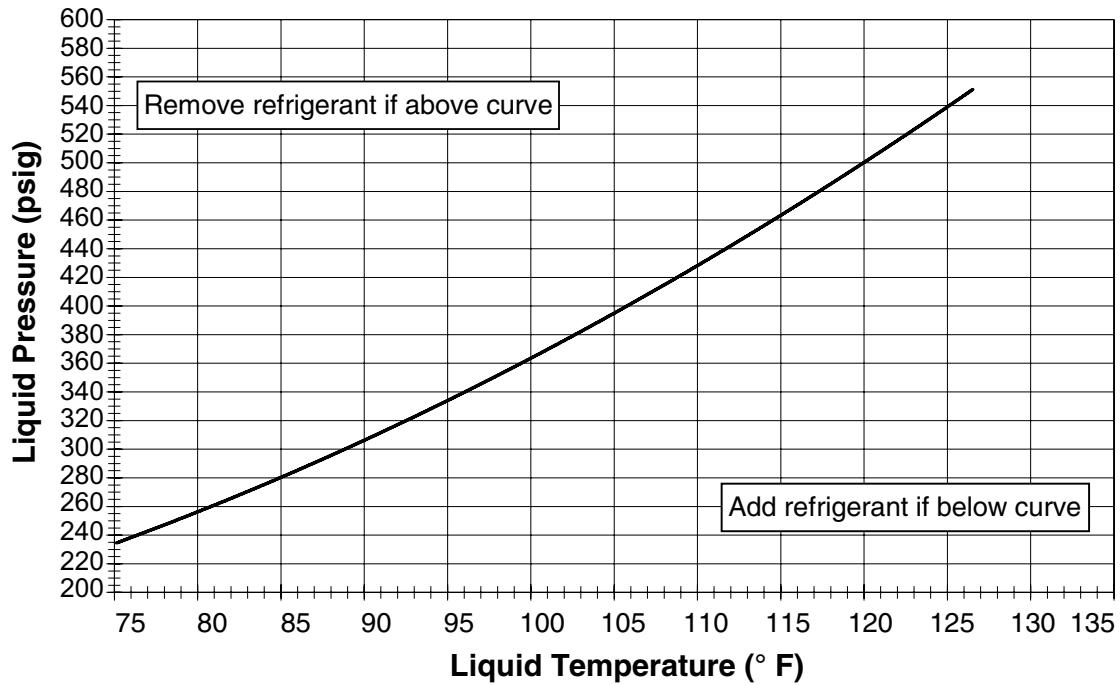
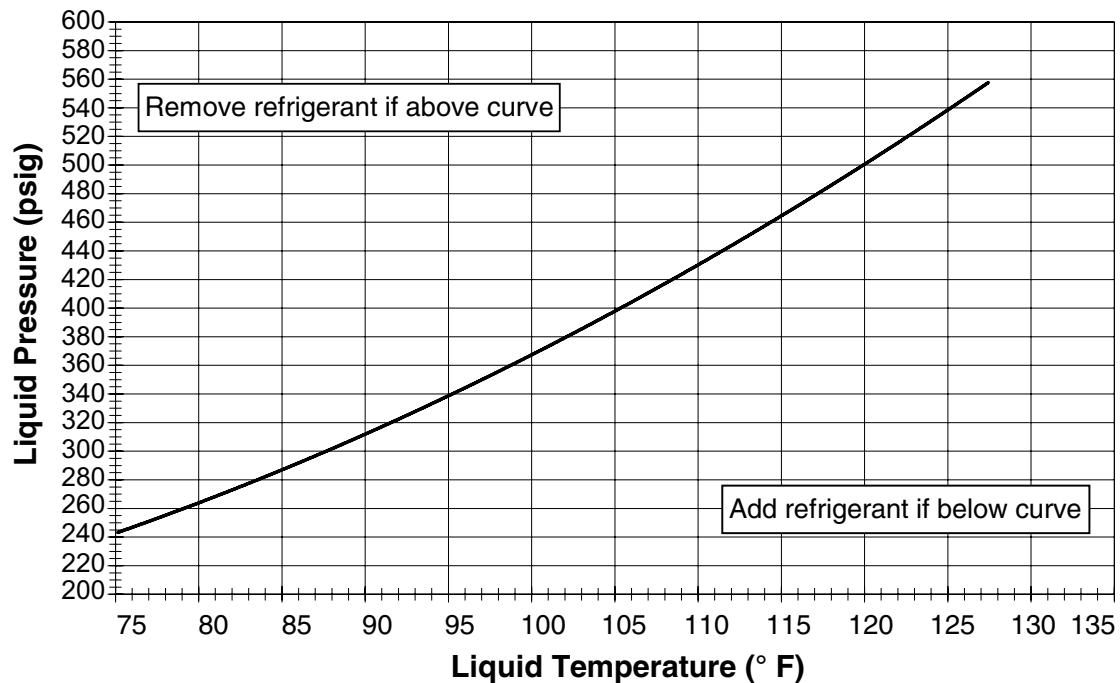
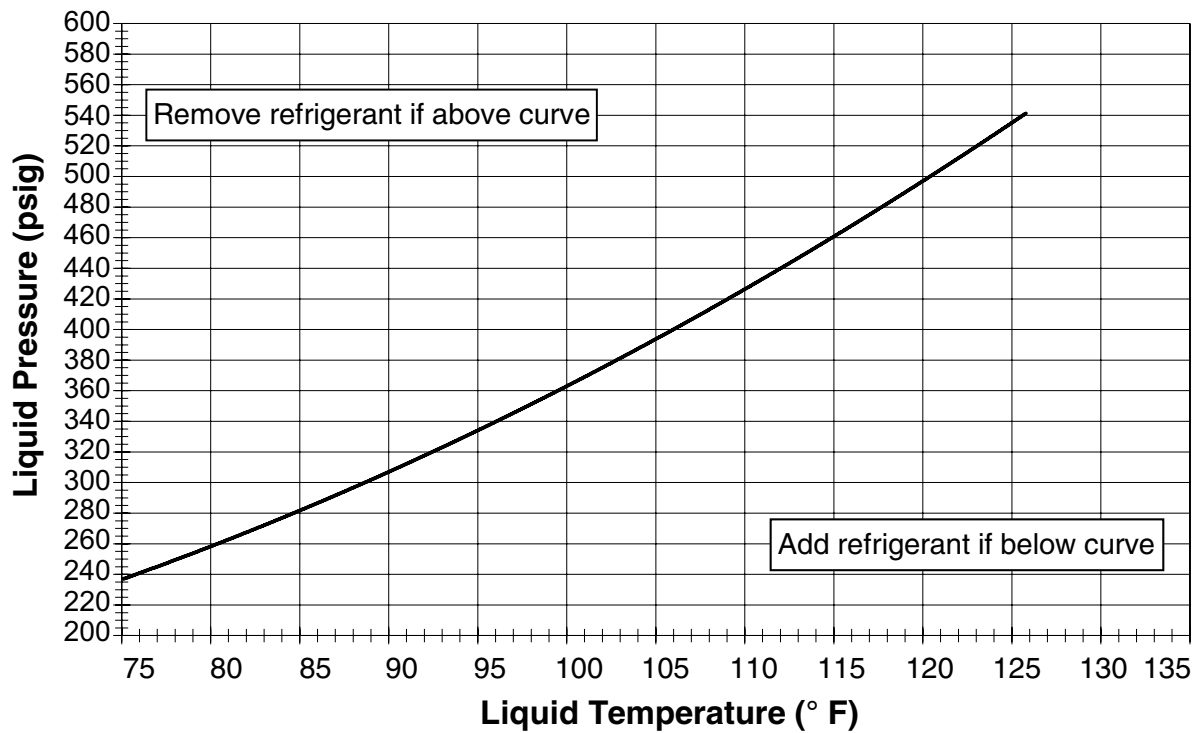
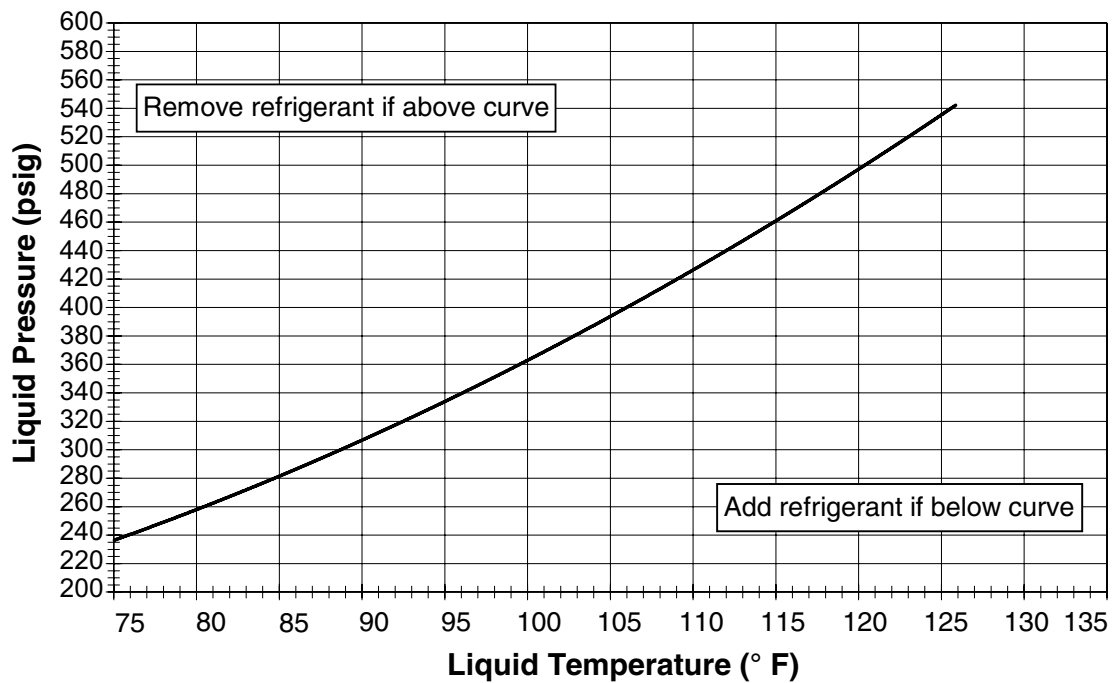

Figure 4. Charging Chart for 2.5 Ton Models
Figure 5. Charging Chart for 3 Ton Models
Figure 6. Charging Chart for 3.5 Ton Models
Figure 7. Charging Chart for 4 Ton Models
- Cooling mode charging charts and tables are applicable only to matched assemblies of this equipment and listed airflows for the indoor coil. Refer to the Quick Reference Data sheet for additional charging information. Outdoor units with non-AHRI listed indoor coils are not recommended and deviations from rated airflows or non-listed combinations may require modification to the expansion device and refrigerant charging procedures for proper and efficient system operation. For correct system charging, refer to Figure 3 \(page 8\), Figure 4 \(page 9\), Figure 5 \(page 9\), Figure 6 \(page 10\), and Figure 7 \(page 10\).
3. Determine the appropriate liquid refrigerant pressure from Figure 3, Figure 4, Figure 5, Figure 6, and Figure 7.
- Charging charts are valid for a variety of indoor, return air conditions and are most influenced by the outdoor ambient temperature, outdoor fan operation and the unit operating voltage. Before using these charts, make sure the unit is in a stable operating mode. As shown in Figure 3, Figure 4 (page 9), Figure 5 (page 9), Figure 6 (page 10), and Figure 7 (page 10) the ideal system sub-cooling can vary over the range of operation. Reference the charts to determine the ideal amount of sub-cooling for a given liquid pressure. Units charged to other values will not perform at the rated unit efficiency (EER) or rated Coefficient of Performance (COP) in heating mode.